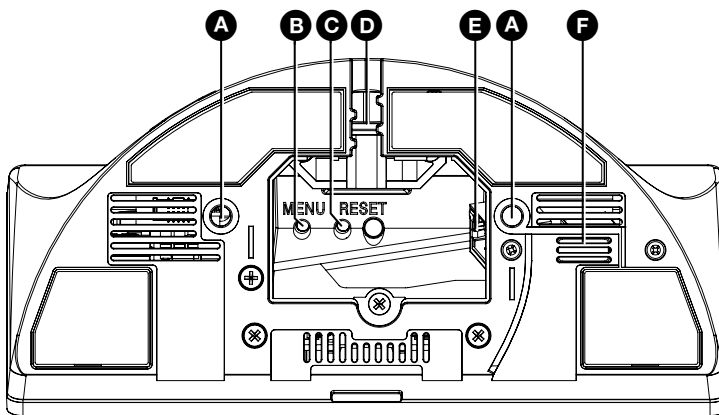

Figure 1. Base of Touchpanel
1. Connect an Ethernet cable to the LAN/PoE input (see figure 1, **F**, on the next page) and run the cable through the cable guide (**D**).
- C Cable guide** — The LAN/PoE cable is inserted through this hole at the back of the base (see figure 1, F).